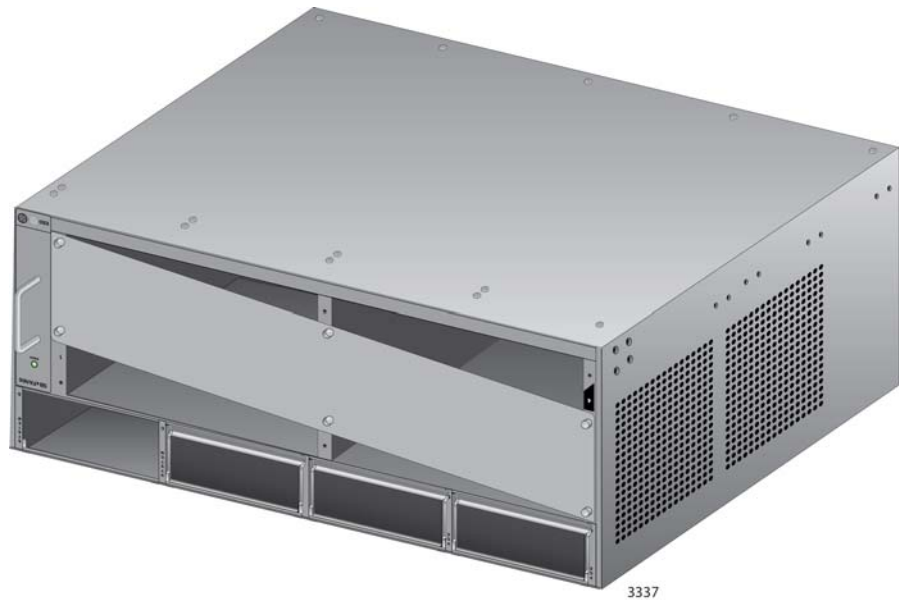

Figure 15. Turning the Chassis Upside Down on a Table
2. Turn the chassis upside down on a table or desk. Refer to Figure 15.